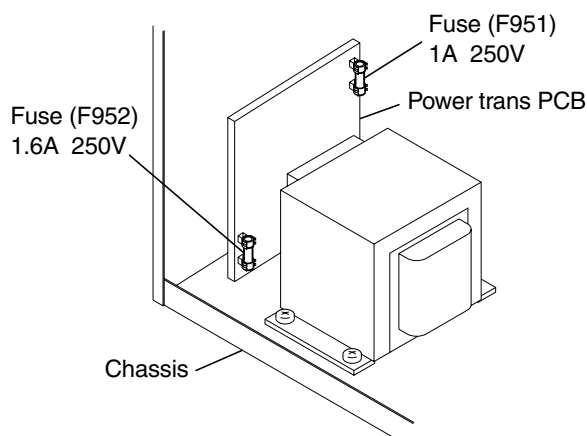
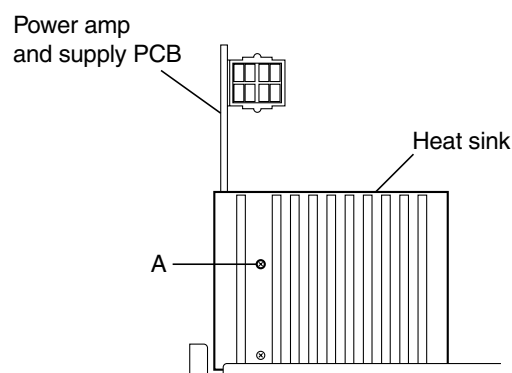

Fig.1
Fig.2
3. Solder is put up before the card wire is removed from connector CN601 on the main board as shown in Fig.1 and Fig. 2.
## ■ Replacing the fuses (See Fig.1)
### ■ Replacing the power IC (See Fig.2 and 3)